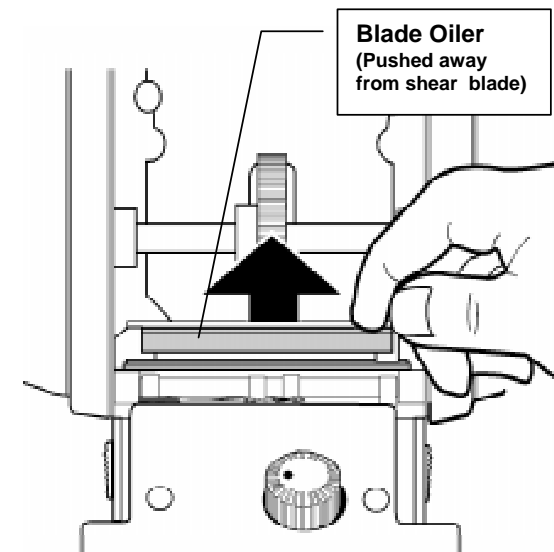

*Figure 22 - Fuse Holder Location*
3. If the outlet is OK, remove the fuse holder from the electrical panel at the rear of the dispenser and check the fuse to see if it is blown. A break in the filament (the thin wire running the length of the fuse) indicates the fuse is blown. See Figure 22. Use a continuity tester to check the fuse if you are unsure.